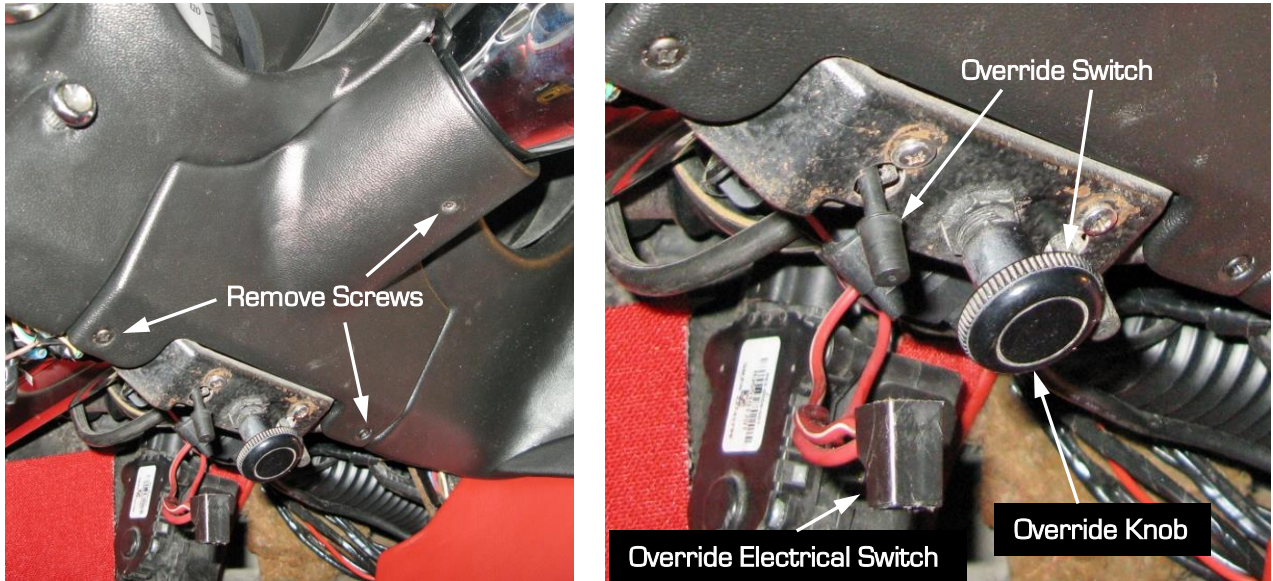

Figure 20 – Remove Lower Column Cover
23. To remove the steering column, start by removing the 3 screws from the lower column cover. You may find the vacuum override switches and/or the wiper override electrical switch (1968-72) attached to the cover (Figure 20). Remove the lower left hand side dash vent duct.